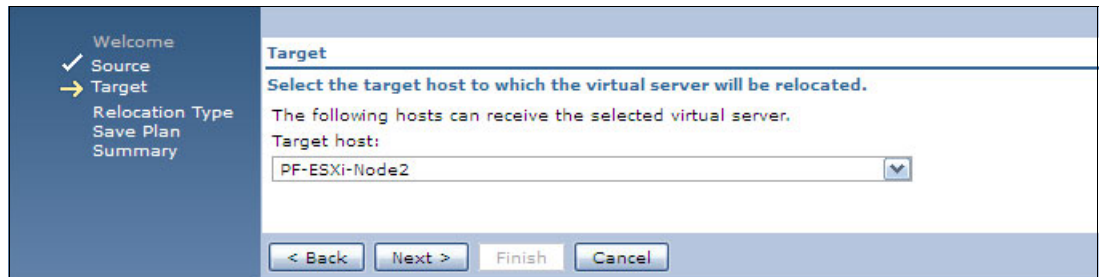

Figure 11-34 Relocate Target window
3. You can select a specific target host or choose “Relocate by CPU utilization”. Select **PF-ESXi-Node2** and click **Next**, as shown in Figure 11-34.